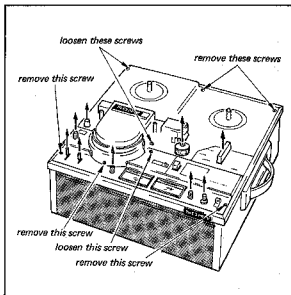

Fig. 3-2. Removal of control and reel panels
2. Loosen the one screw and remove the two screws on the Control Panel as shown in Fig. 3-2.
6. Loosen the two screws and remove the two screws on the Reel Panel as shown in Fig. 3-2.